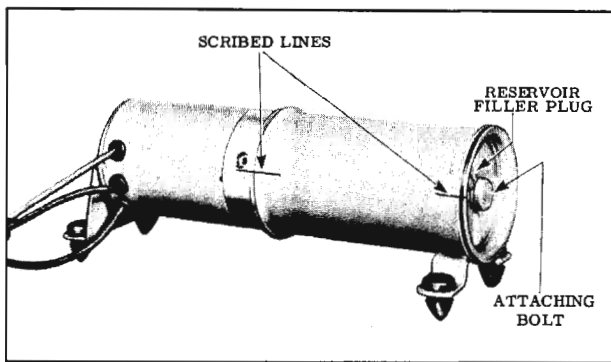

Fig. 16-142 Alignment Marks
2. Scribe a line across pump end plate, reservoir tube and reservoir tube end plate to insure a correct assembly of parts. (Fig. 16-142)